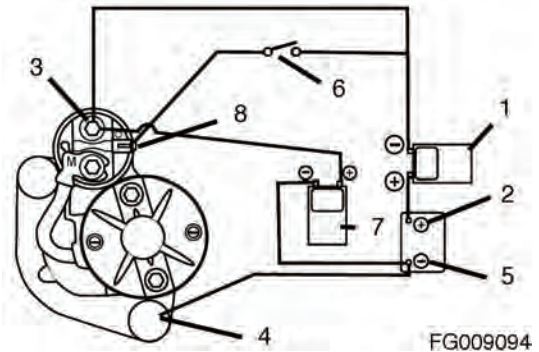

Figure 373
2. Connect an ammeter (1, Figure 373) in series between the battery positive (+) terminal (2, Figure 373) and the main positive (+) terminal (3, Figure 373) on the starter motor.
3. Connect a wire lead between the mounting base of the starter motor (4, Figure 373) and the battery negative terminal (5, Figure 373).
4. Connect a voltmeter (7, Figure 373) to the battery negative (-) terminal (5, Figure 373) and the main positive (+) battery terminal (3, Figure 373) on the starter motor.
5. Install a switch (6, Figure 373) in a circuit between the battery positive (+) terminal (2, Figure 373) and the starter magnetic switch (solenoid) terminal (8, Figure 373) on the starter motor.